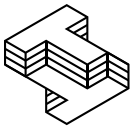

Figure 4:
- Standard empty aluminum 12-ounce (340.2 g) can with tab removed (see Figure 4)